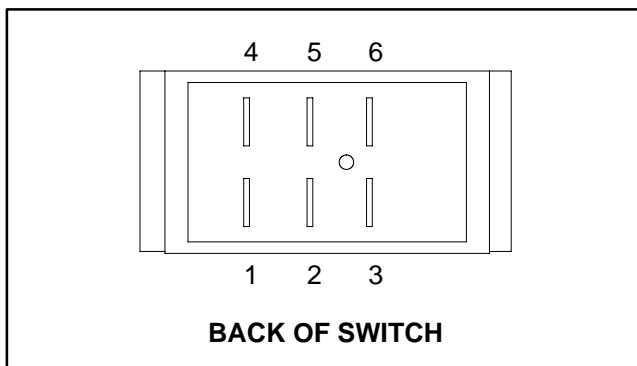

Figure 17
2. The switch terminals are marked as shown in Figure 17. In the INCREASE position, continuity should exist between terminals 2 and 3 and also between terminals 5 and 6. In the neutral, center position, there should be no continuity between any switch terminals. In the DECREASE position, continuity should exist between terminals 2 and 1 and also between terminals 5 and 4.
3. The switch terminals are marked as shown in Figure 17. In the boom raise position, continuity should exist between terminals 2 and 1 and also between terminals 5 and 4. In the neutral, center position, there should be no continuity between any switch terminals. In the boom lower position, continuity should exist between terminals 2 and 3 and also between terminals 5 and 6.